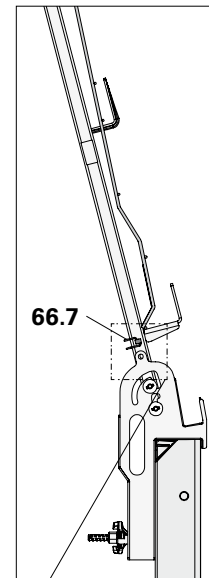
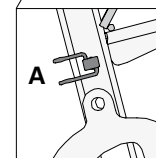

Abb. A7.33
Fig. A7.33a
3. Install linch pin (66.7) in Position A. (Fig. A7.33a)
6. Erect panel (10). When the panel is positioned securely, remove the Lifting Hook from a safe working position, e.g. working platform.
7. Fold back Guardrail Posts including Side Mesh Barrier. (Fig. A7.33)
8. Remove linch pin (66.7) from Position A. (Fig. A7.33a)
2. Install linch pin (66.7) in Position A. (Fig. A7.33a)